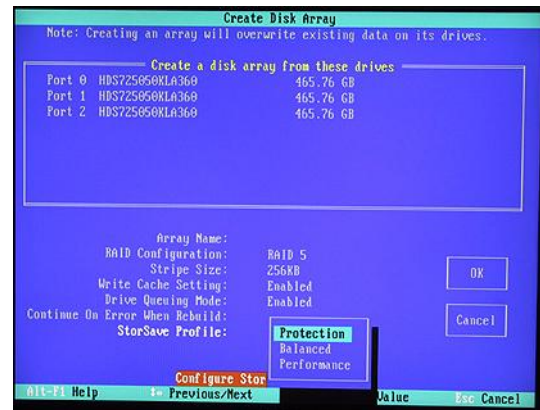

Figure 3-52
- 11) Use the up/down arrow keys to highlight the **StorSave Profile** item, and then press the <Enter> key to access an associated pop-up dialog (Figure 3-52).